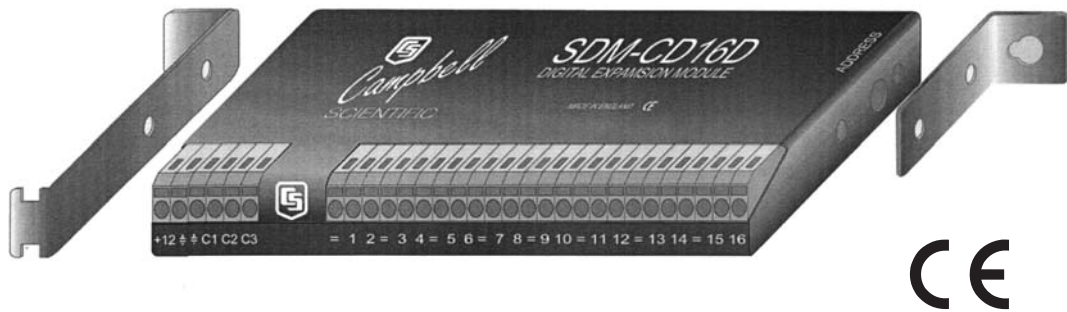

Figure 1. SDM-CD16D
*The SDM-CD16D (see Figure 1) is a synchronously addressed peripheral. It has 16 control ports.*
Each SDM-CD16D can have 1 of 16 addresses. The factory-set address is 00. Table 2 shows switch position and the corresponding address. Figures 1 and 5 show the position of the switch. Note that you will have to remove the mounting bracket to gain access to this switch.